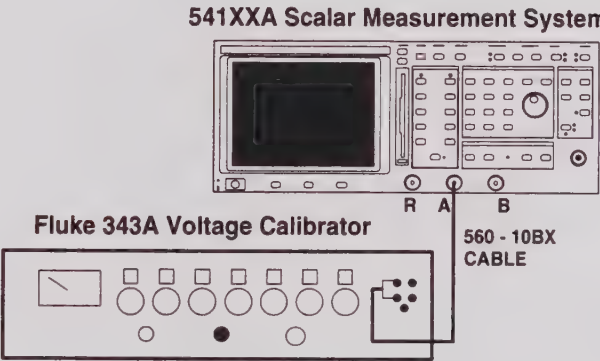

Figure 6-2. Equipment Setup for Signal Channel Sensitivity Adjustment
- ☐ Connect the equipment as shown in Figure 6-2, and turn it on.